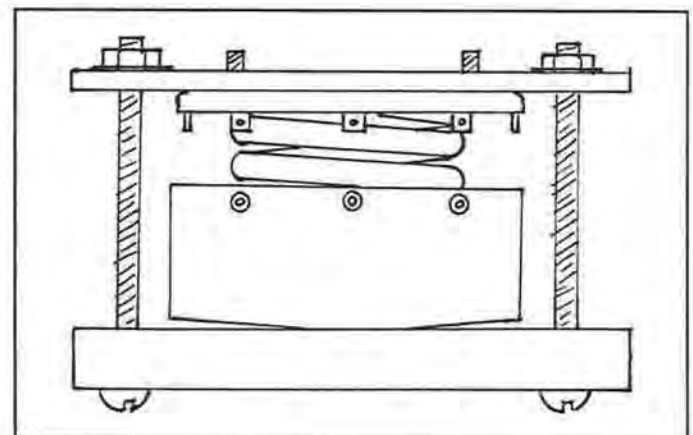

Figure 8.
*Step 18.* Place the drum cover on the spring, aligning the index marks. Lay the drum unit in the clamp. Align the drum unit and clamp bars. Compress the clamp bars and start all four nuts on the bolts. (See Figure 8.)